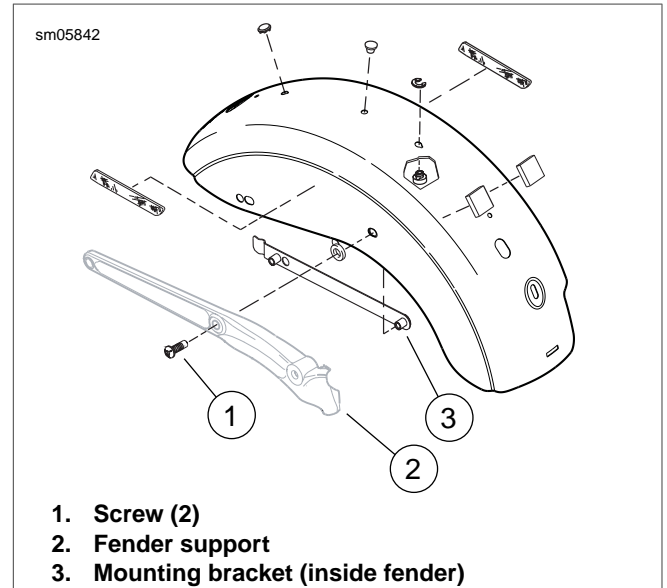

Figure 2-111. Rear Fender (FXDB)
2. See Figure 2-111. Remove screws (1) that hold fender in place and carefully remove fender from supports (2).
2. See Figure 2-111. Apply LOCTITE THREADLOCKER 243 (blue) to the threads of screws (1). Place fender and covers (3) into position. Tighten screws (1) to 12-18 ft-lbs (16.3-24.4 Nm).